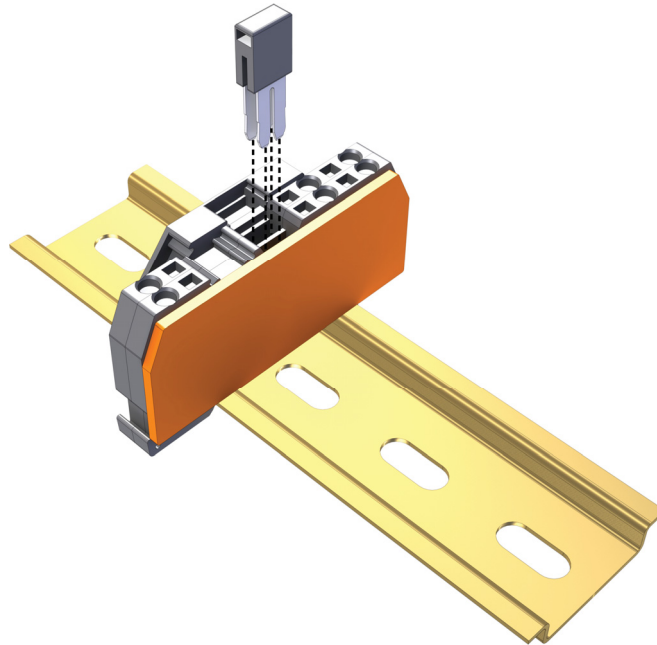

FIGURE B-4. 15909 Jumper installation
2. Insert the 15909 Jumpers in the terminal strips as shown in FIGURE B-4.